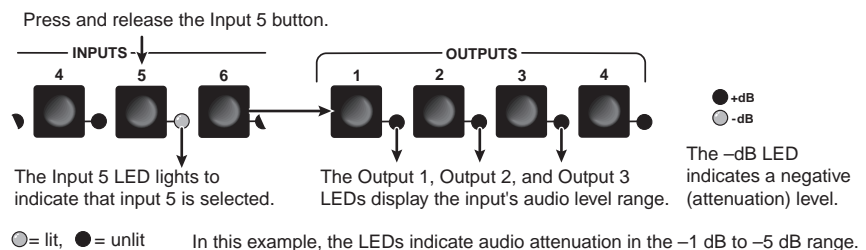

Figure 3-37 — Select an input
2. Press and release the Input 5 button (figure 3-37).